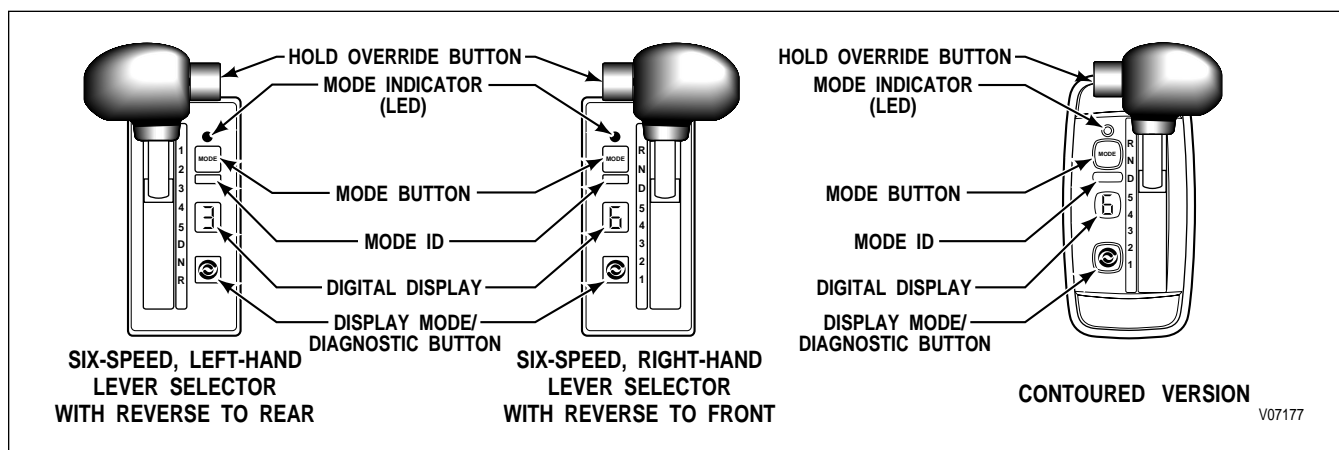

Figure 1-5. Typical Lever Shift Selector
B. Lever Shift Selector (Figure 1-5)